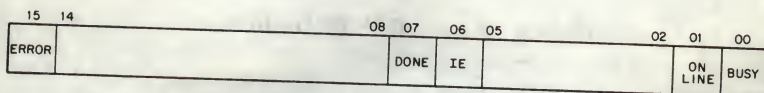

Figure 4 LAV11 CSR Bit Assignments
**Control and Status Register (CSR)** — The address of the CSR is 177514 and the register data contains the control and status of the system. The data bit assignments are shown in Figure 4; the bit assignments are described in Table 3.